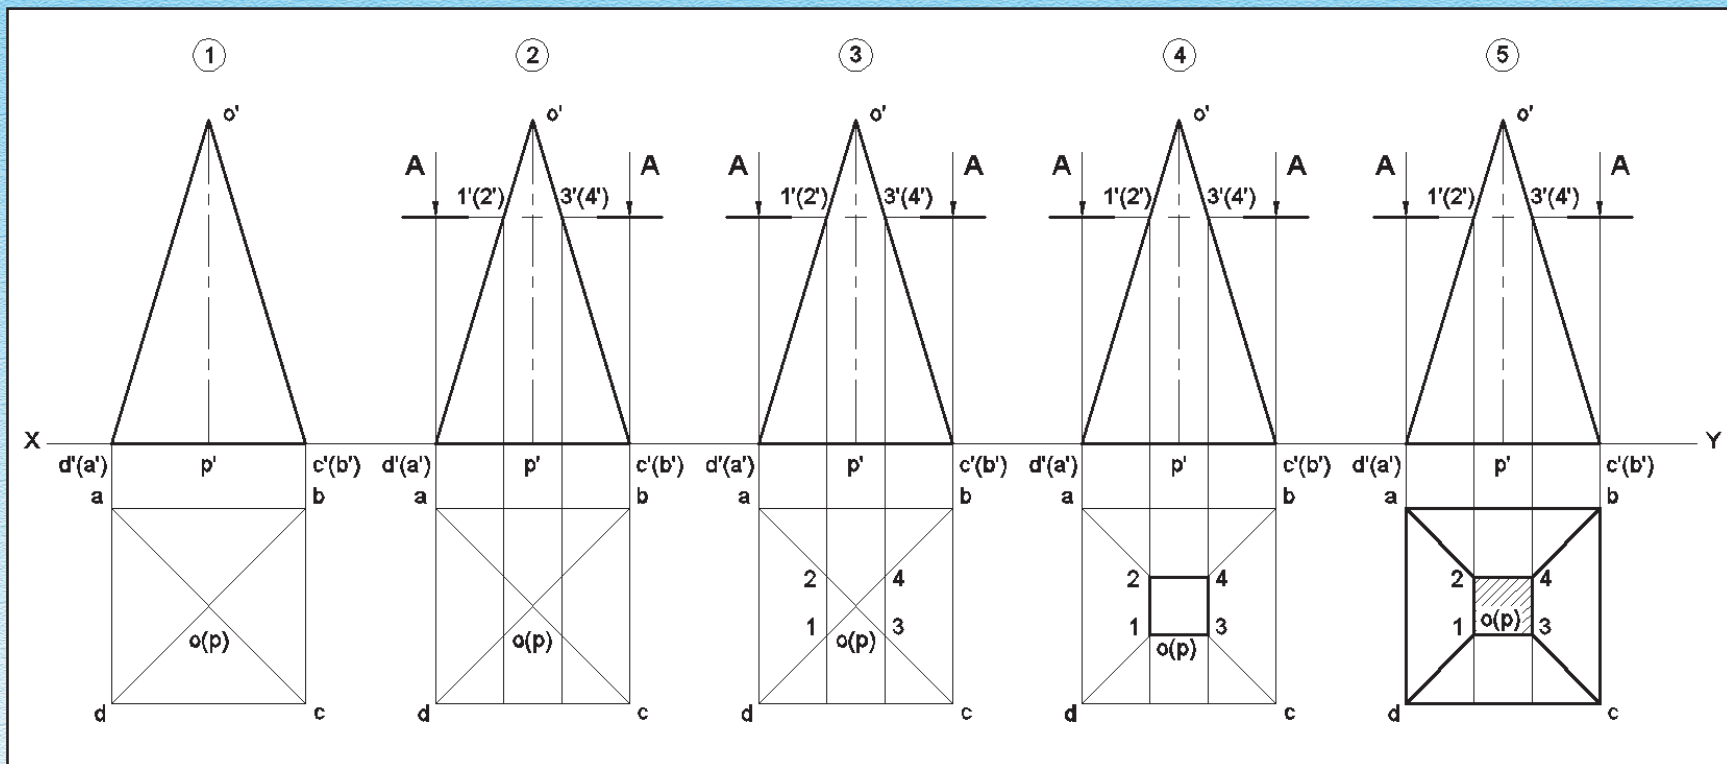

Fig. 5.13 Step wise Drawing Procedure
Steps of Construction : Refer to Fig. 5.13
1. Refer to Fig. 5.13 (1) Draw the projections of the complete solid in the required position using thin lines (as learnt in the previous chapter). Name the base and points of the axis. In this case, square base a-b-c-d- and axis points o-p. Project these points in the other view (here, Front View)
2. Refer to Fig. 5.13 (2) Mark the given section plane in the appropriate view (i.e. Front View in this case) as a line. Name the points of intersection (POIs) of this plane with the edges (base, rectangular/slant) drawn in the view. So, we have points 1', 2', and 3', 4' cutting the slant edges o'-d, o'-a' & o'-c', o'-b' respectively in Front View.
3. Refer to Fig. 5.13 (3) Project these points of intersection, (POIs) on the other view (here Top View) by identifying the corresponding edges they cut. So point 1 cuts o-d, pt. 2 cuts o-a and so on in the Top View.
4. Refer to Fig. 5.13 (4) Join the projected points to form the boundary of the sectioned surface with continuous thick lines.
5. Refer to Fig. 5.13 (5) Complete the drawing of the remaining portion with continuous thick lines.